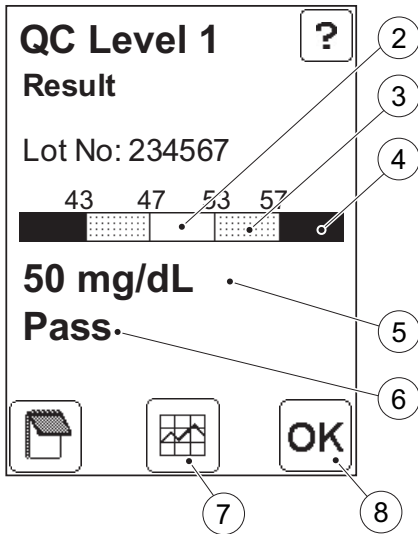

FIGURE 6-10
FIGURE 6-10 will be displayed.
- g) If the Failed QC Comment setting is set to "Entry Required" (see 3.4.3 *QC Test Settings*) and the QC Test has failed, then FIGURE 6-11 will be displayed when the Confirm button shown in FIGURE 6-10 is pressed. Use the Previous Image button (9) to go back and add at least one comment.
- i) Press the Confirm button (16). *FIGURE 6-10* will be displayed.